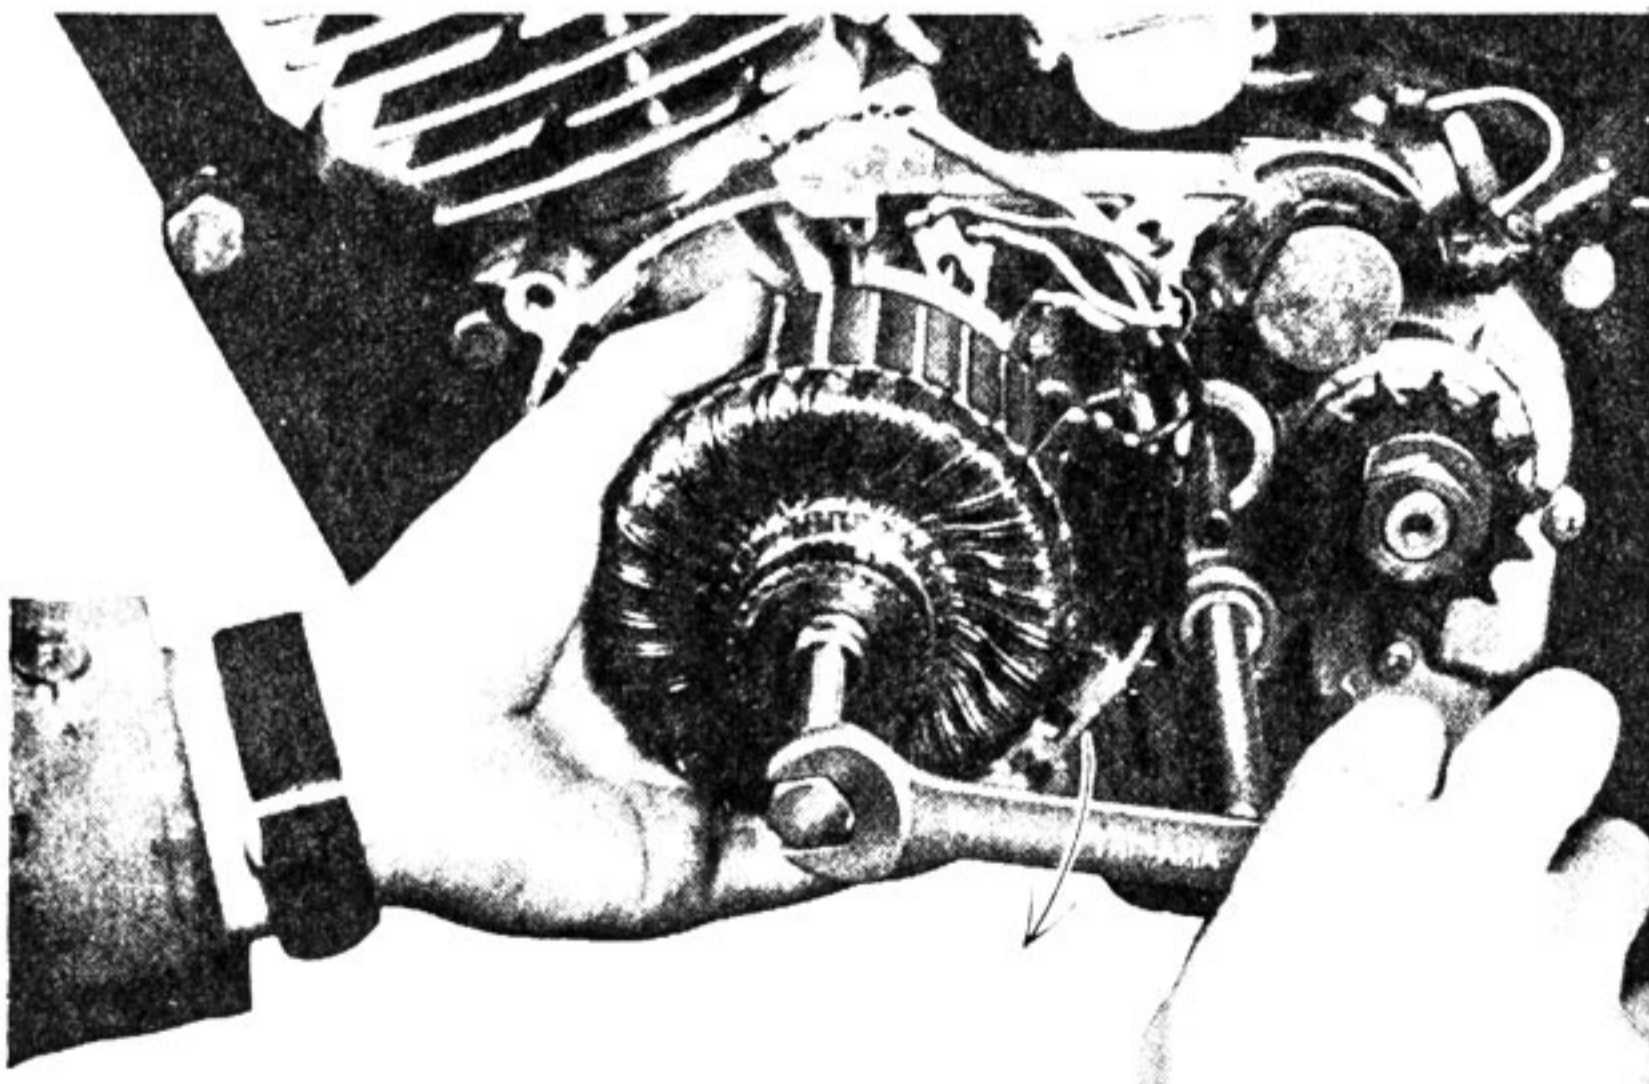

Fig. 4-1-9
(5) Remove the armature by the use of the armature puller bolt. (Fig. 4-1-9)